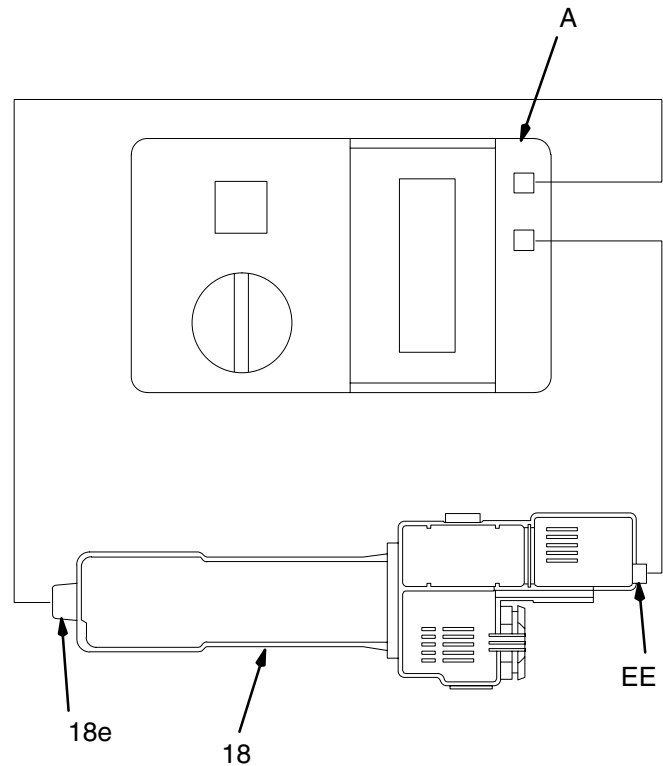

Fig. 5
Test Power Supply Resistance (See Fig. 5)
Measure the resistance from the power supply's ground contact point (EE) to the contact inside of the power supply seal (18e) *[the conductive rubber contact may be slightly recessed into the seal]*. See Fig. 5.